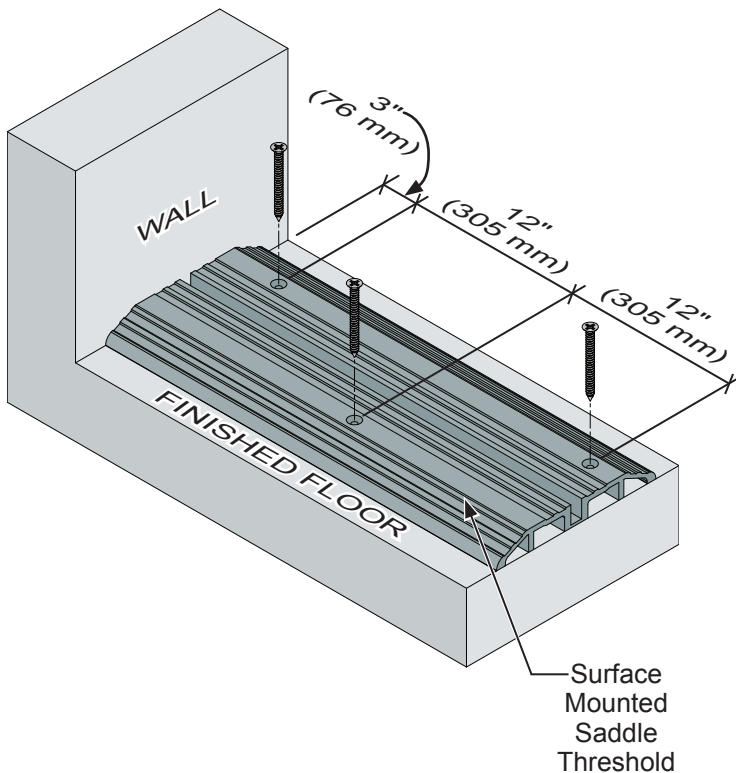

FIG. 6
1. The surface mounted saddle threshold is fastened with masonry screws at 12" (305 mm) on center and 3" (76 mm) from the wall onto the floor, positioned directly under the center of the top track. **(Fig. 6)**